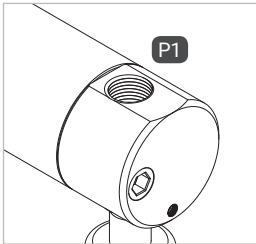
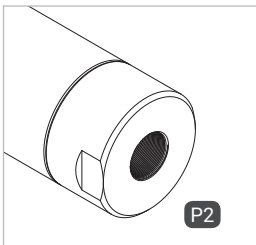

Figure 2
Figure 3
- ▶ Screw the pilot pressure port 'P1' (Figure 2) or 'P2' (Figure 3) pressure-tight to the connection port of the pilot pressure line.